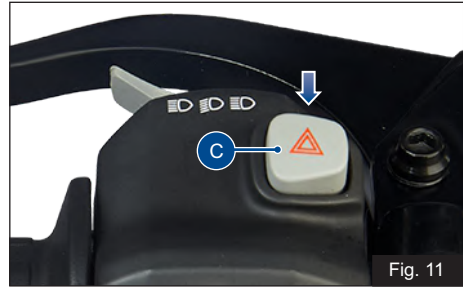

Fig. 11
C) Hazard switch (ref. Fig. 11)
- ◆ Press the button '△' (C) to turn ON / OFF the hazard lamps.